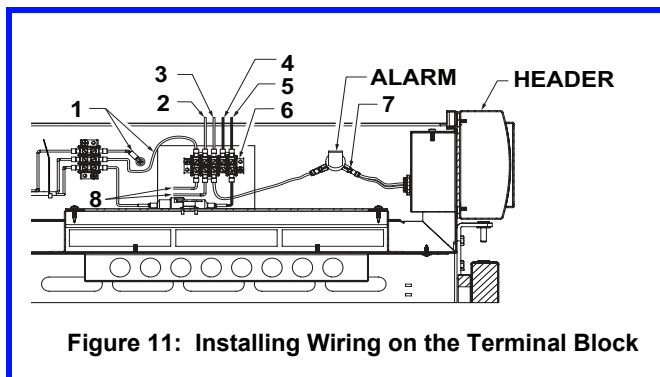

Figure 11: Installing Wiring on the Terminal Block
9. Connect the remaining leads from the two power bundles (to the W0198 and W0199 connectors) from the Electrical Box located behind the Header. See Figure 11.